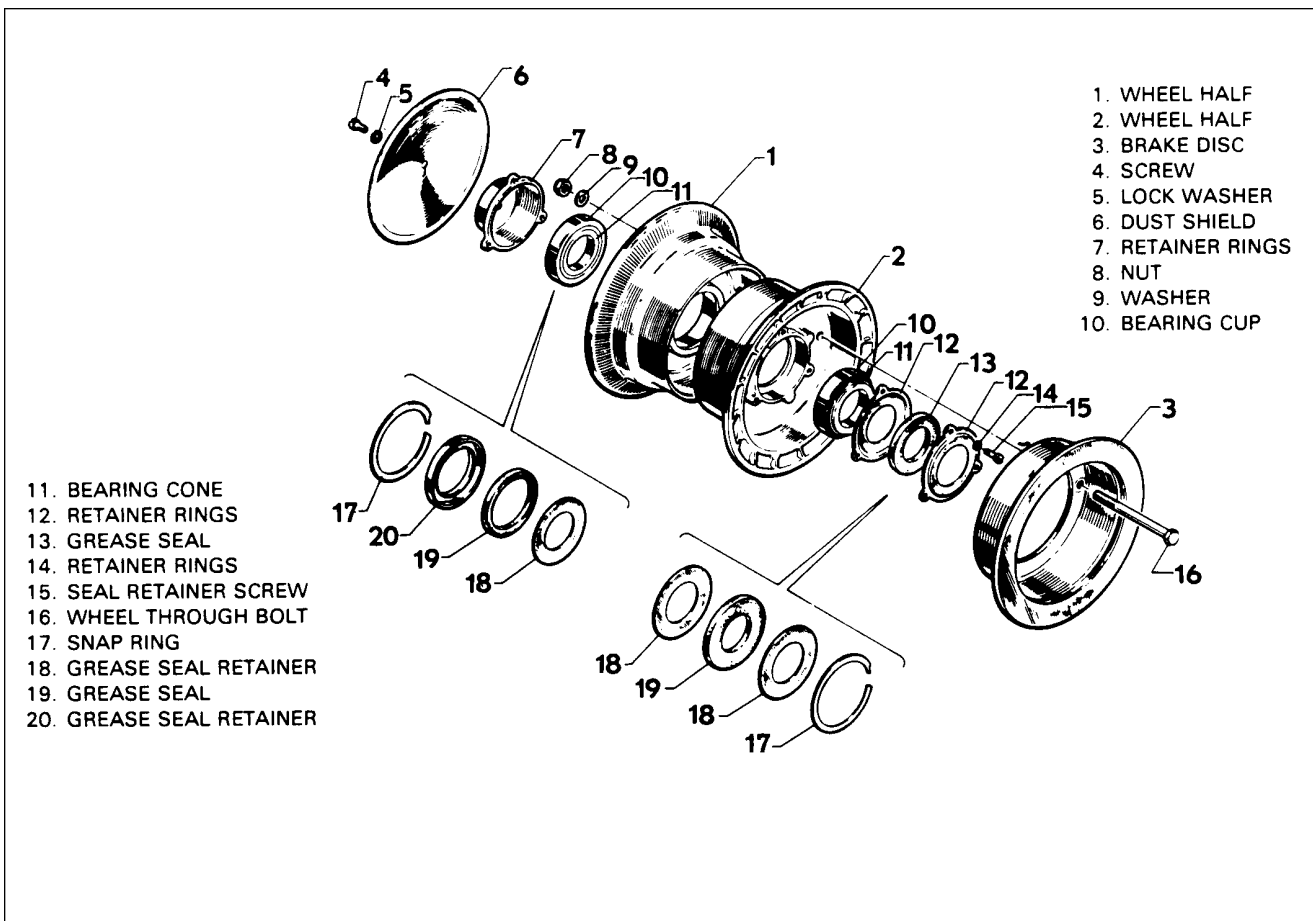

Figure 32-9. Main Wheel Assembly
A. REMOVAL AND DISASSEMBLY OF MAIN WHEEL (Refer to Figure 32-9.)
C. ASSEMBLY AND INSTALLATION OF MAIN WHEEL (Refer to Figure 32-9.)